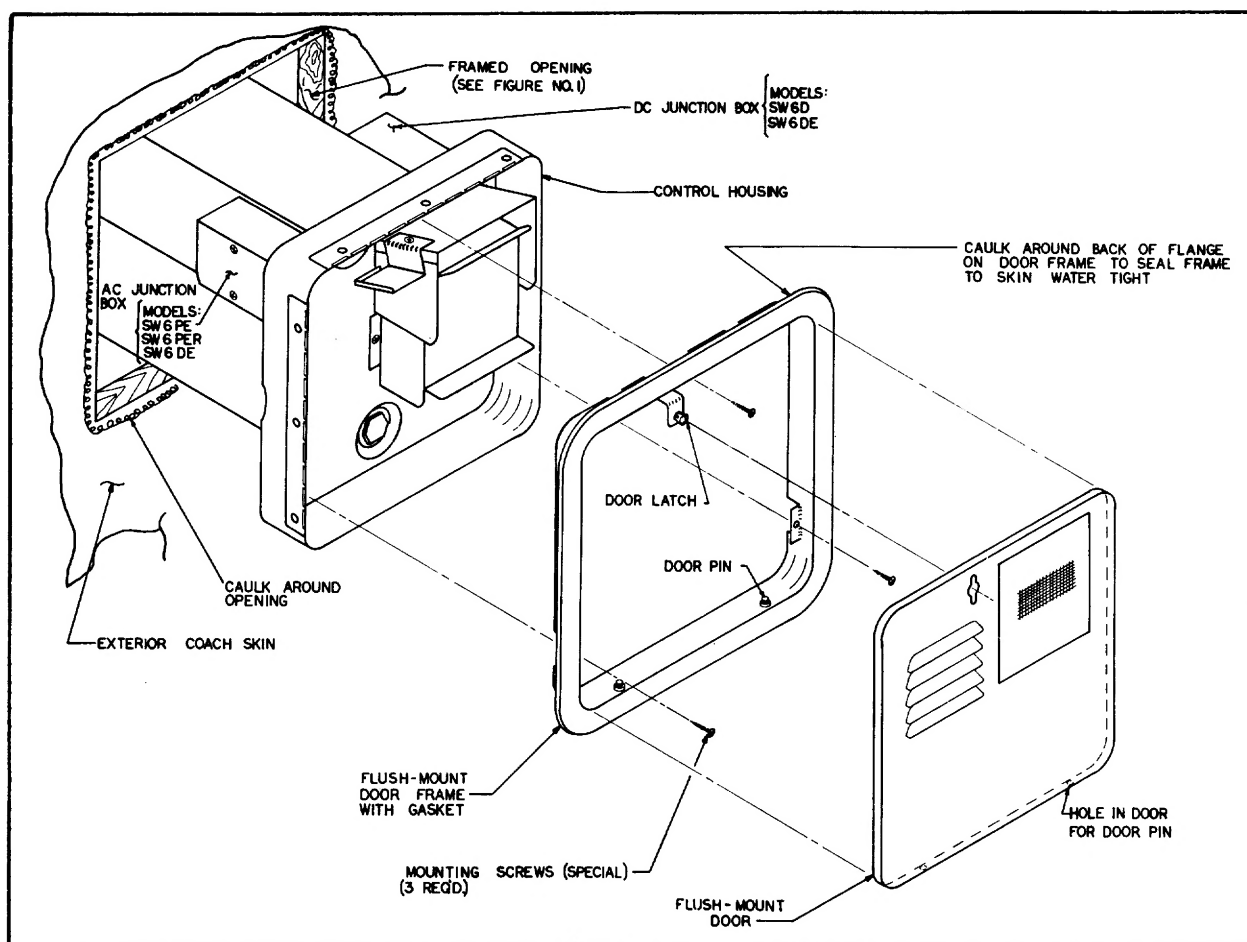
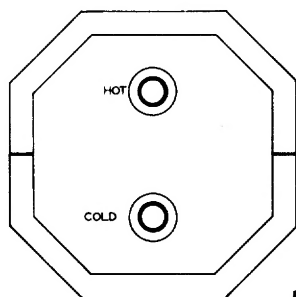
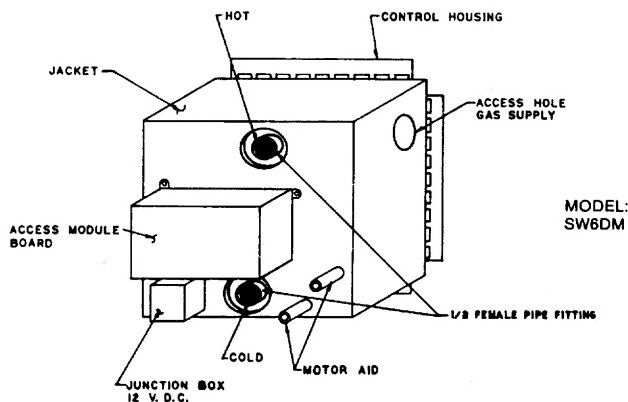

Figure 2
Figure 5
Figure 6
I. INSTALLATION USING FLUSH MOUNT FRAME AND DOOR (See Figure 2 for illustration)
D. Insert door frame into control housing and secure with three (3) No. 8 x 3/4 screws provided. NOTE: Three (3) No. 8 x 3/8 screws installed at factory to seal extruded holes must first be removed.
A. Water connections are made at the rear of the water heater. Refer to Figure 5 for all models except SW6DM. For model SW6DM, refer to Figure 6. Connect the hot and cold water lines to the 1/2" female pipe fitting provided on rear of tank. These fittings are marked "HOT" and "COLD". NOTE: Inside each fitting is a plastic fill tube. Its purpose is to enhance water circulation. **DO NOT REMOVE PLASTIC FILL TUBE.**
B. Refer to Figure 2 for location of D.C. junction box on models SW6D and SW6DE. Refer to Figure 6 for location of D.C. junction box on model SW6DM.
B. Refer to Figure 2 for location of A.C. junction box.